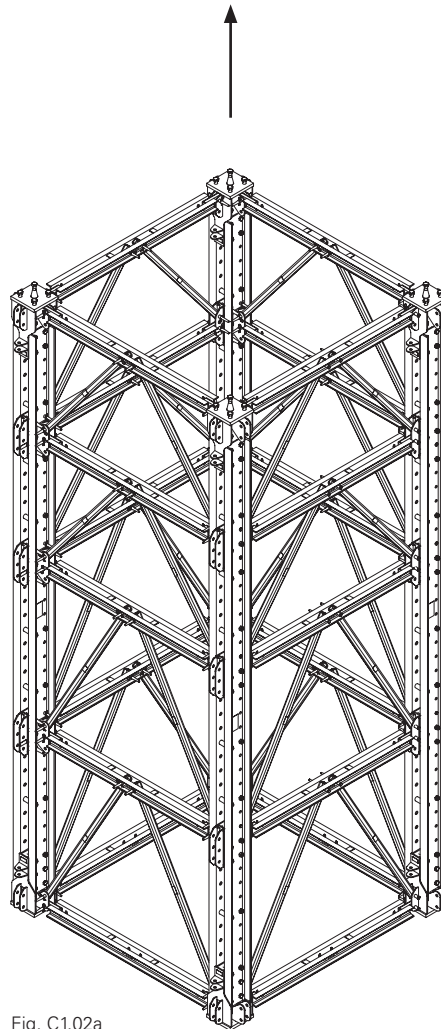

Fig. C1.02a
1. Lift the tower and set down on its designated position. (Fig. C1.02a)